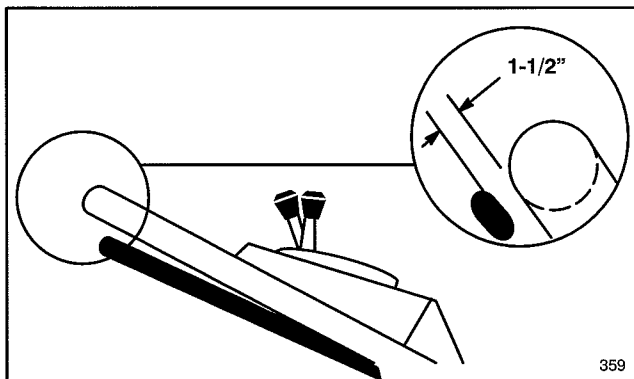

Figure 18
2. **CHECK ADJUSTMENT**—Slowly pull mower backward while control bar is gradually moved toward handle. Adjustment is correct when rear wheels stop turning and control bar is about 1-1/2 inches from handle (Fig. 18).